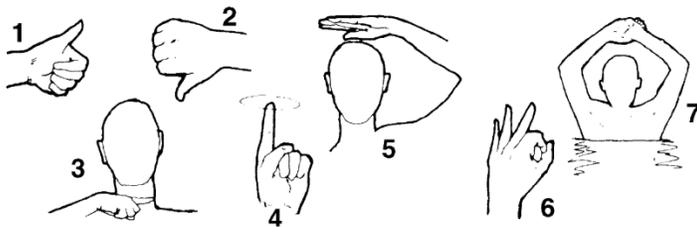

FIGURE 2-12 WATER SKIER HAND SIGNALS
3. Have a second person aboard to observe the skier and inform the driver about the skier's hand signals (Figure 2-12). The driver must give full attention to operating the boat and the waters ahead.